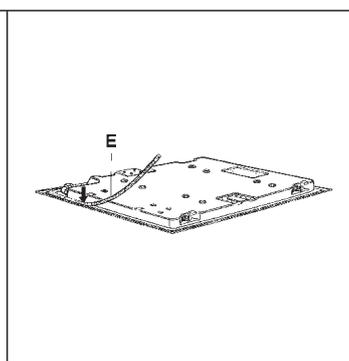

FIG. 9
- Overturn the hot plate and correctly position seal "E" (fig. 9) under the edge of the hot plate itself, so that the outer side of the seal perfectly matches the outer edge of the hot plate. The ends of the strips must fit together without overlapping.
- Overturn the hot plate and correctly position seal "E" (fig. 9) under the edge of the hot plate itself, so that the outer side of the seal perfectly matches the outer perimetral edge of the hot plate. The ends of the strips must fit together without overlapping.